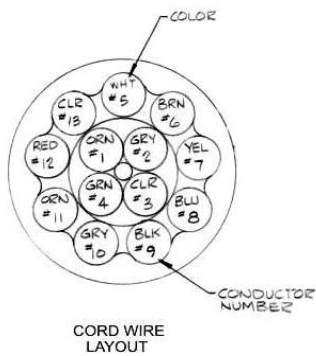

Fig. 3
- f) Insert pinned wires into connector receptacle P2 in accordance with Table 1, refer to Fig. 3 for wire locations in cord. Then position rubber grommet at connector and attach strain relief clamping.